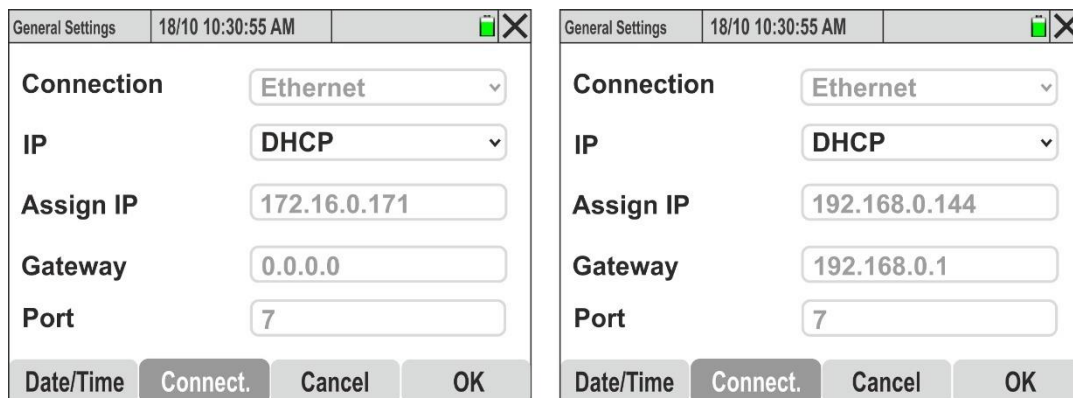

Fig. 14: Setting the Ethernet network communication – DHCP Mode
1. Press the **F2** key or touch **Connect** on the display. The screen of Fig. 14 – left part is shown on the display
4. **Switch the instrument off and on again.** The IP address assigned to the instrument by the network router will be displayed when returning to the connection section (see Fig. 14 – right side)
8. Select the "**Network**" option, enter the IP address of the previously defined device (see Fig. 14 – right side) and press "**OK**" to confirm